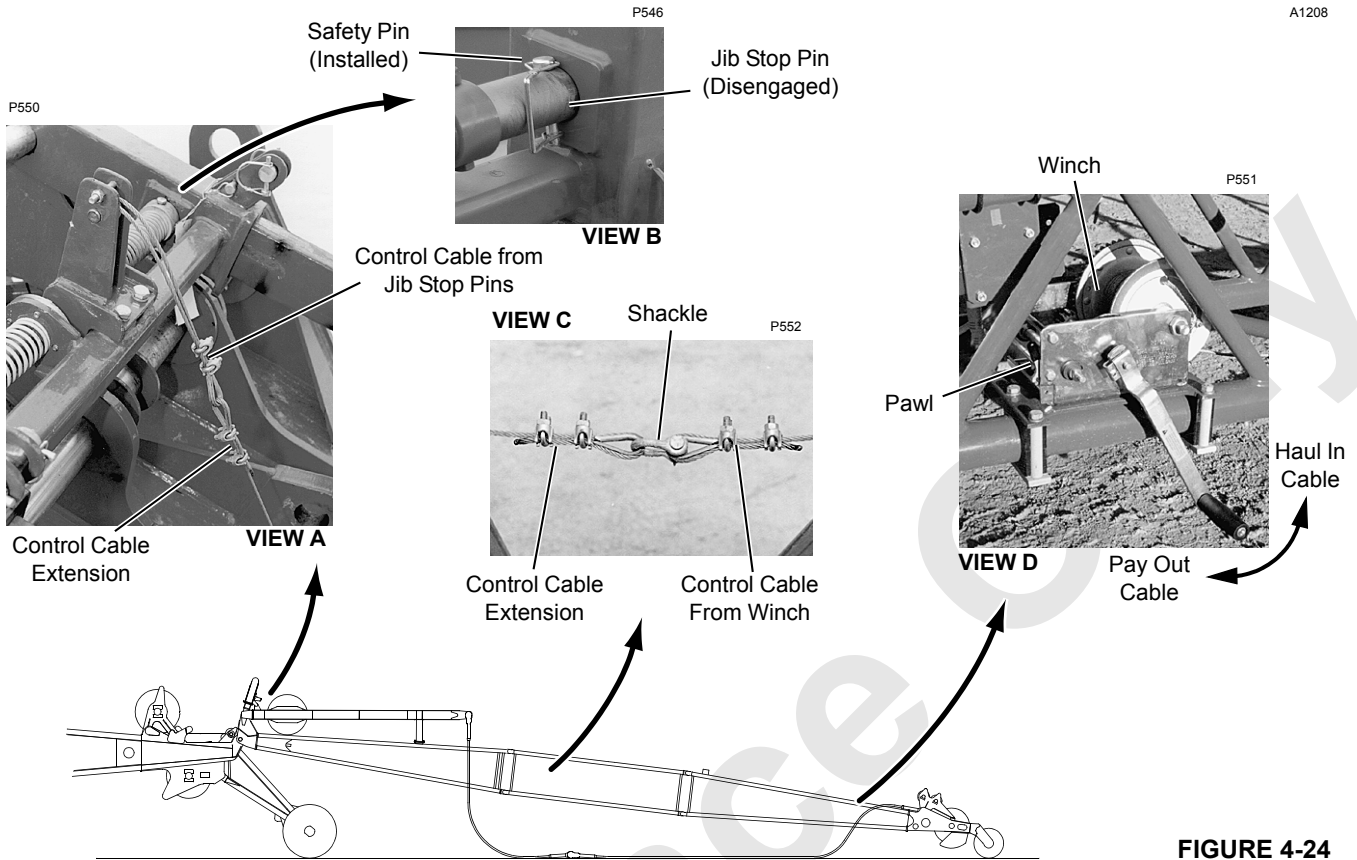

FIGURE 4-24
See Figure 4-24 for the following procedure.
Jib stop pins are spring engaged. Do not remove safety pins (Figure 4-24, View B) until jib stop assembly is pinned in working position and control cables are tensioned.
- g. If possible, lower outer tube (2) until hole in link (5, View F) lines up with hole in luffing jib top and install pins (4).
- h. Remove pins (6, View F) from inner links (7).
- i. Slide inner links into outer link (2) until holes in inner links line up with third hole in links (8). Install pins (6, View F).
- j. Using hand winch on jib top, haul in jib stop control cable enough to tension jib stop pins so that safety pins (Figure 4-24, View B) can be removed.
- k. Remove safety pins from jib stop pins (Figure 4-24, View B) and store pins in lugs on outer tube (Figure 4-25, View D).